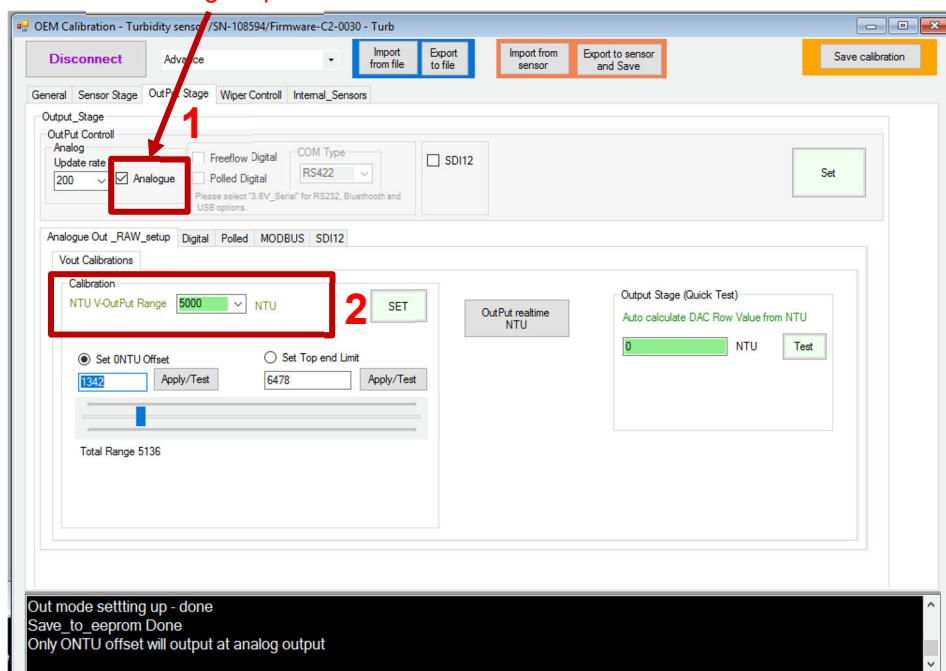

Figure 7.1: Selection of the Analog option
- Enabling Analog option (Figure 7.1: #1).
- Scaling of the Analog output (Figure 7.1: #1).